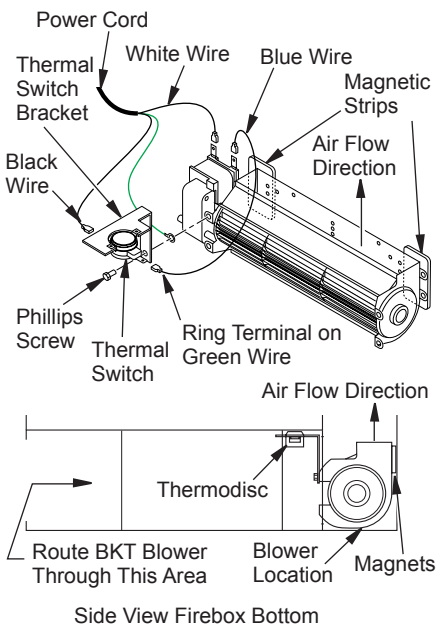

Figure 29 - Blower Model BKT
1. Place green ground wire with ring terminal between bottom hole on thermal switch bracket and top ear hole on blower assembly. Insert Phillips screw into all three pieces and tighten securely (see Figure 29).
3. Place blower against lower rear wall of firebox outer wrapper with exhaust port directed upward and thermodisc positioned up near fireplace bottom. Thermodisc must be oriented near fireplace bottom as shown in Figure 29 in order to sense temperature and properly operate. Blower will be held in position against back wall by magnets incorporated onto blower housing (see Figure 29).